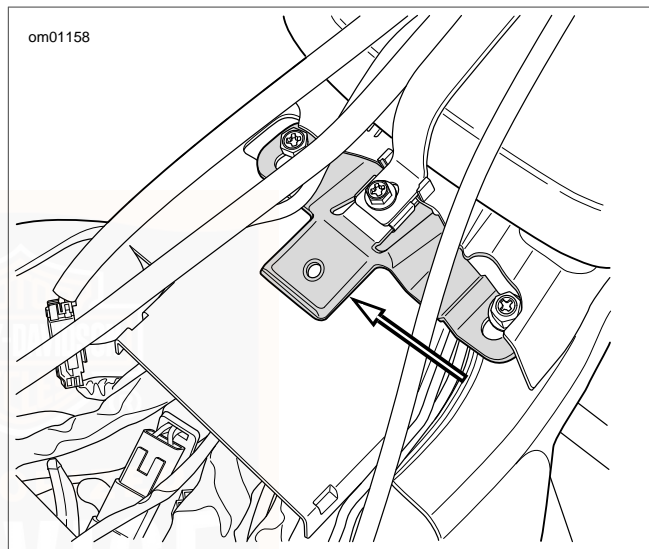

Figure 73. Seat Tongue
2. See Figure 73. Push seat rearward to free seat from tongue on rear fuel tank bracket.
4. See Figure 73. While pushing seat forward, raise rear of seat until bracket clears top of Tour-Pak. Push seat rearward slightly to free seat from frame.